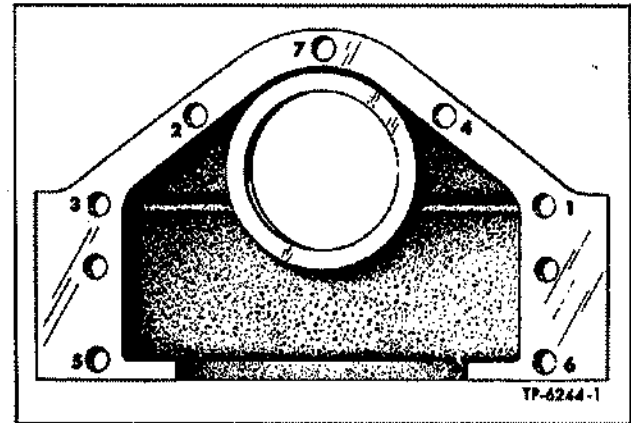

Figure 34—Crankshaft Front Cover Tightening Sequence
3. Tighten cover cap screws to proper torque using tightening sequence illustrated in figure 34.